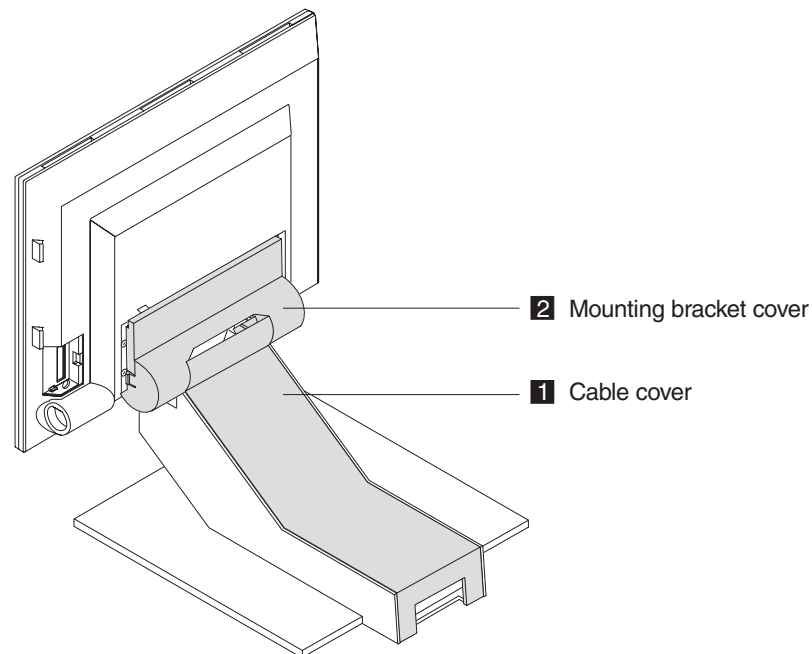

Figure 26. Placement of cable covers
- a. Attach the cable cover ( **1** ) to the mounting bracket (as shown in Figure 26), snapping the tabs on the sides of the cover into the small holes on the sides of the mounting bracket.